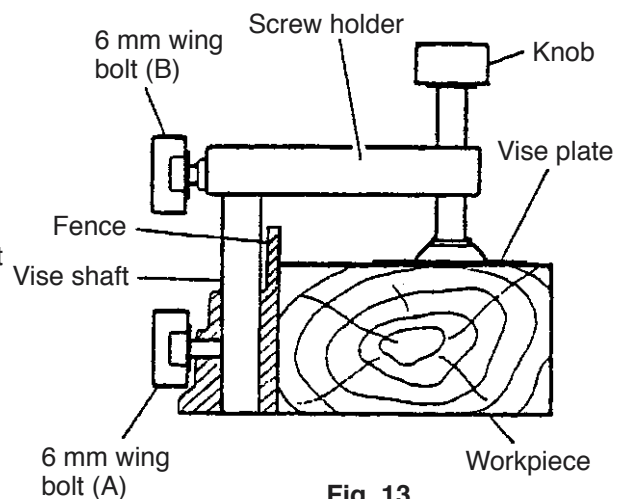

Fig. 13
- (1) The vise assembly can be mounted on either the left fence (fence (B)) or the right fence (fence (A)) by loosening 6 mm wing bolt (A).
- (2) The screw holder can be raised or lowered according to the height of the workpiece by loosening 6 mm wing bolt (B). After the adjustment, firmly tighten 6 mm wing bolt (B) and fix the screw holder.
- (3) Turn the upper knob and securely fix the workpiece in position (Fig. 13).